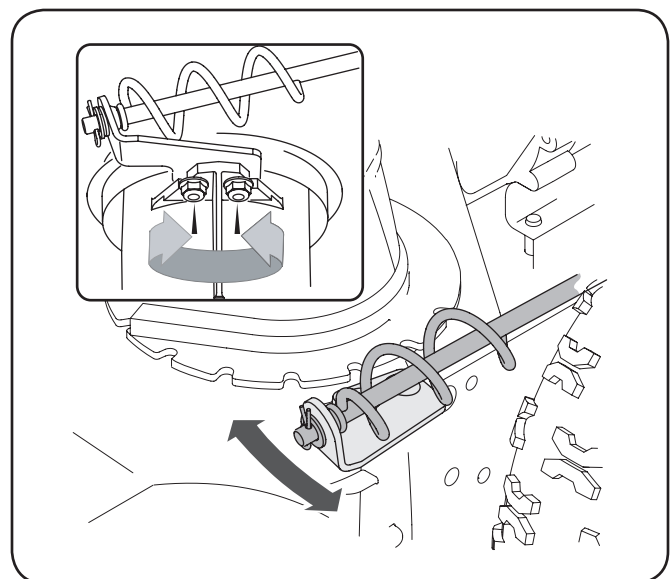

Figure 6-5
1. Loosen the two nuts which secure the chute bracket and reposition it slightly. Refer to Figure 6-5.